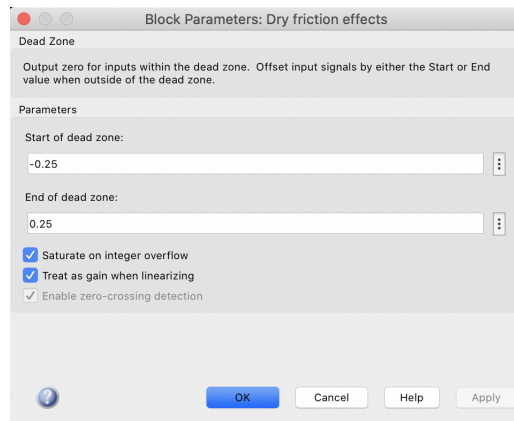

Figure 2.8: Configuration of the dead zone block to model the dry friction effects
5. Click on the Dead Zone block and set its start and end of the dead zone as shown in Figure 2.8.
3. Click on the Dead Zone block and set its start and end of the dead zone as shown in Figure 2.8.